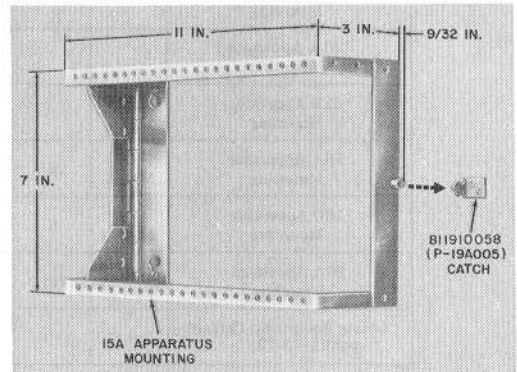

**Fig. 2—Typical 115-Type Apparatus Box With Distributing Rings and Connecting Blocks Installed**
**2.03** The 115-type apparatus box (Fig. 2) is intended for use as a terminating and distributing point in buildings. It is equipped with a snap-on cover, distributing ring(s), and screws for mounting 66-type connecting blocks which must be ordered separately. For further information on the 115-type apparatus box, refer to Sections 461-604-101, 461-604-102, and 463-121-115.